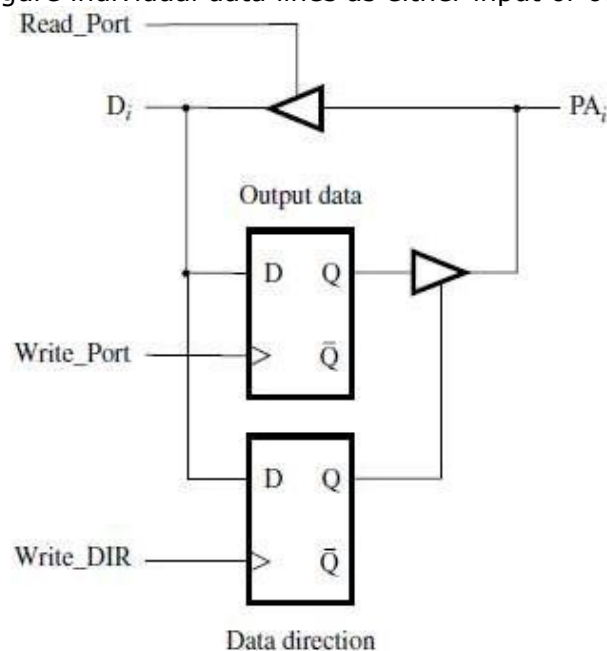

Figure 10.5 Access to one bit in port A in Figure 10.4.
- If the data direction flip-flop contains a 0, then Port pin **PA_i** is treated as an input (Figure 10.5).